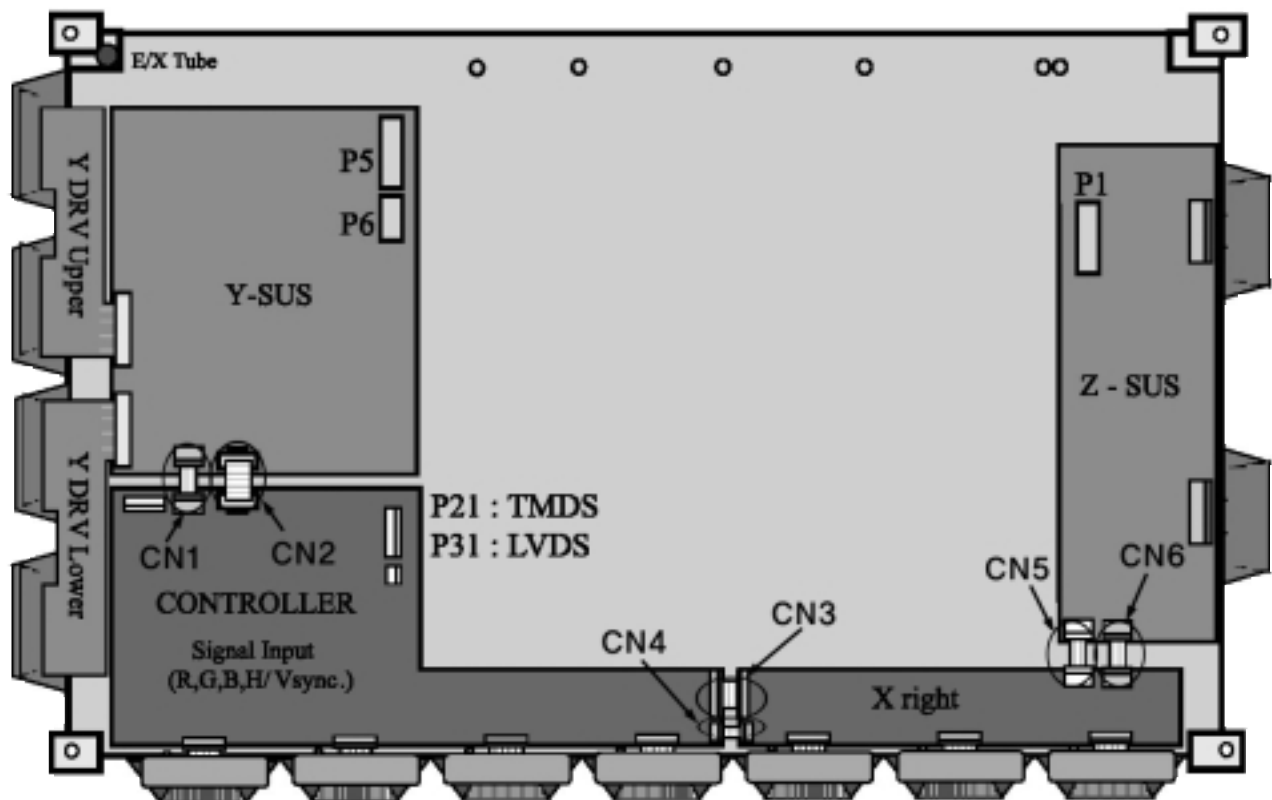

Fig. 8 Connection diagram
- (1) onnection diagram of measuring instrument Refer to Fig. 8.(Connection diagram of measuring instrument that adjusting the voltage wave form)
- (2) Setting up the initial voltage Initially setting up voltage : Vcc:5V, Va:65V, Vs:190V But, Initially setting up voltage can be changed by the set up range according to the Module' s characteristic.
- (1) Adjusting the Voltage Wave form of Vsetup
- Connect measuring instrument like the connection diagram Fig. 8.
- Turn on the power of the measuring instrument like the <Caution> item Fig. 8.
- (1) Connection diagram of measuring instrument Refer to Fig 8. (Connection diagram of measuring instrument that adjusting the voltage wave form)
- (2) Setting up the initial voltage Initially setting up voltage : Vcc:5V, Va:65V, Vs:190V But, Initially setting up voltage can be changed by the set up range according to the Module's characteristic.